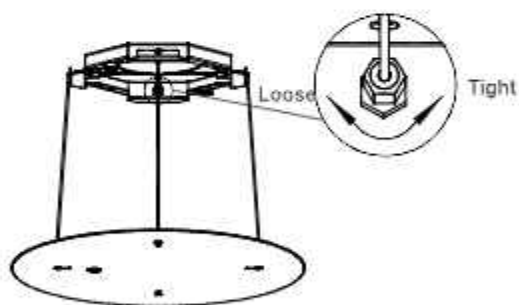

Fig.15
10. Slightly adjust the 4 screws as indicated Fig.15 if the hood is placed to be tilted.